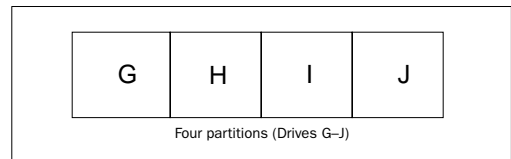

Figure 24. Four partitions per physical drive (the maximum)
- ◆ You can have up to four primary partitions per drive. Each partition is assigned a drive letter and cannot be further subdivided (Figure 24).